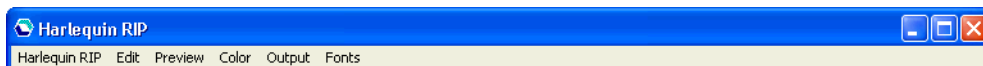

Figure 2.1 The Navigator RIP menus
- The next menu changes name to indicate which device it is controlling. This menu contains commands for controlling output and cutting the media being used on any printers connected to the computer. Because the displayed name can change, this documentation refers to it as the **Device** menu. (Figure 2.1, page 34, shows Preview in this position.)